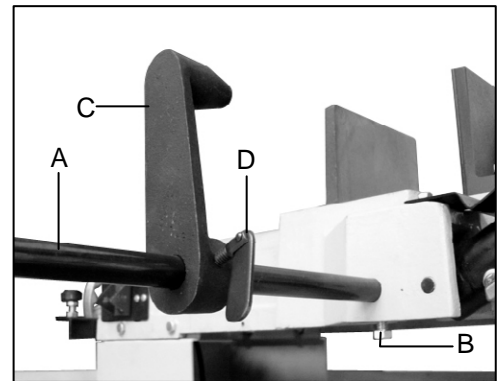

Fig. 2
4. Slide material stop bar (A, Fig. 2) into base and secure by tightening bolt (B). Slide material stop (C) onto bar and tighten bolt (D).